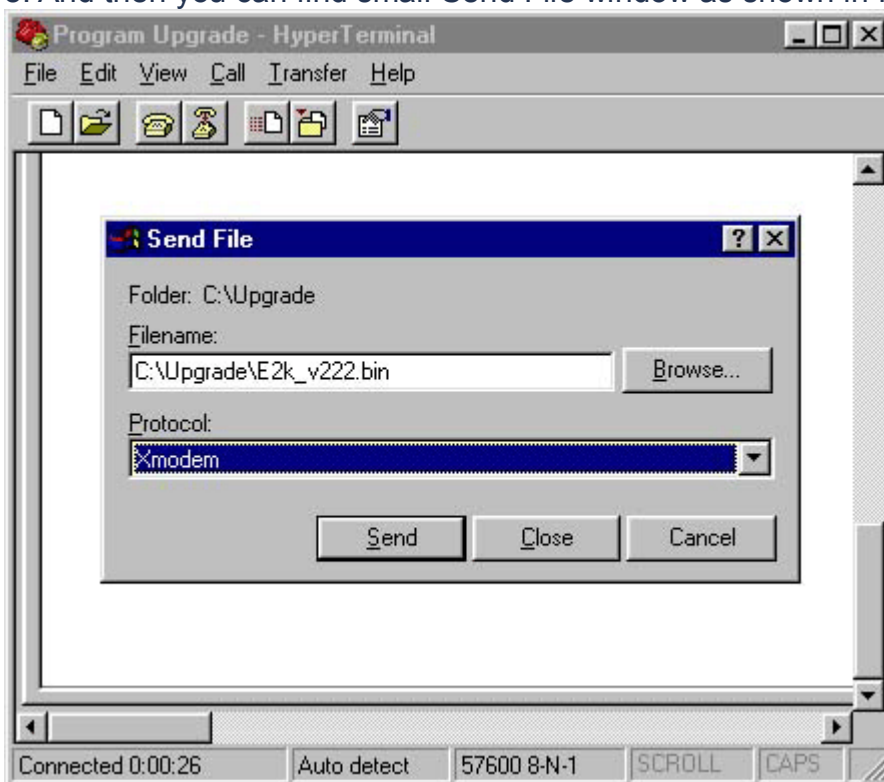

Fig. 7
8. And then you can find small Send File window as shown in Fig.7